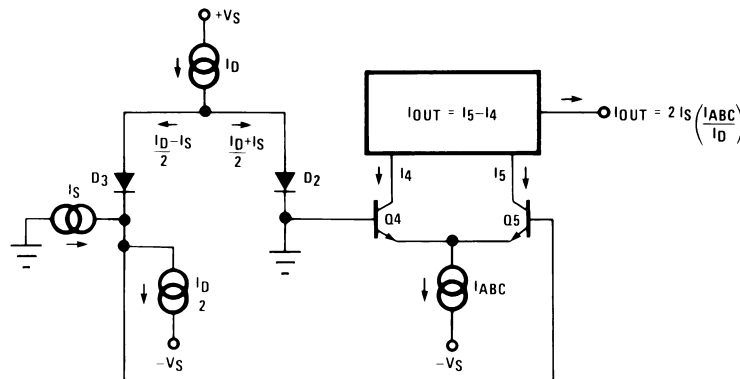

FIGURE 1. Linearizing Diodes
For differential voltages greater than a few millivolts, Equation (3) becomes less valid and the transconductance becomes increasingly nonlinear. Figure 1 demonstrates how the internal diodes can linearize the transfer function of the
Figure 2 shows how the linearizing diodes can be used in a voltage-controlled amplifier. To understand the input biasing, it is best to consider the 13 k Ω resistor as a current source and use a Thevenin equivalent circuit as shown in Figure 3. This circuit is similar to Figure 1 and operates the same. The potentiometer in Figure 2 is adjusted to minimize the effects of the control signal at the output.